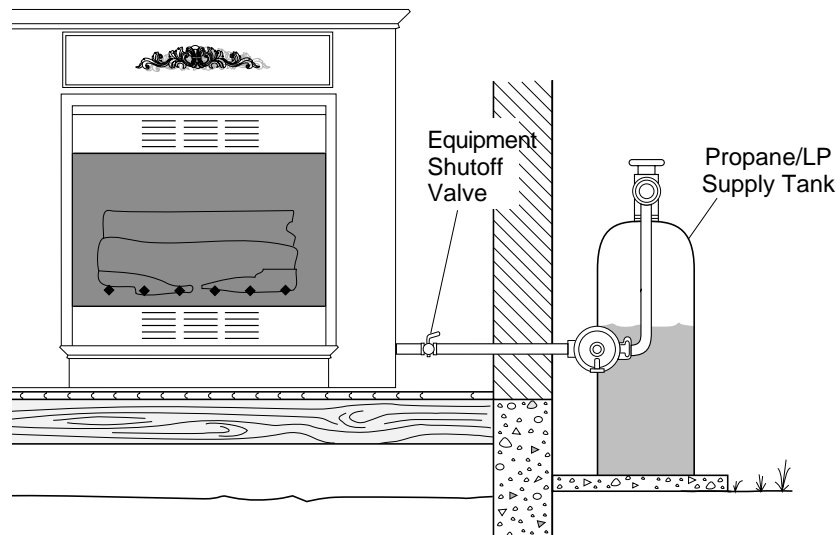

Figure 24 - Checking Gas Joints (Shown with Optional Mantel)
3. Check all joints from propane/LP supply tank to equipment shutoff valve (see Figure 24). Apply mixture of liquid soap and water to gas joints. Bubbles forming show a leak.